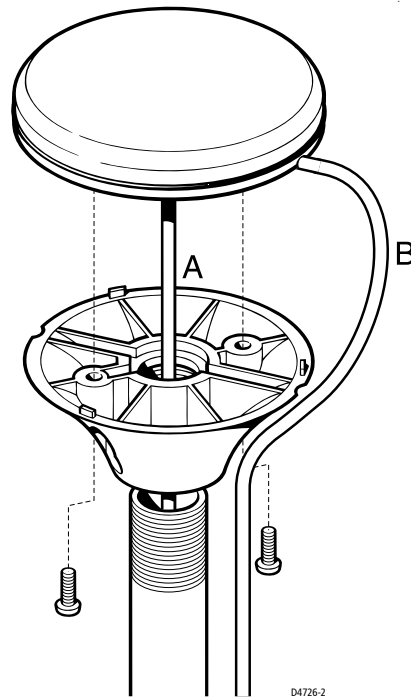

Figure 5-3: Pole Mounting Arrangement
► Refer to *Figure 5-3*:
2. Pass the cable through the centre hole of the pole mount base (A) or insert the cable into the side exit channel (B).